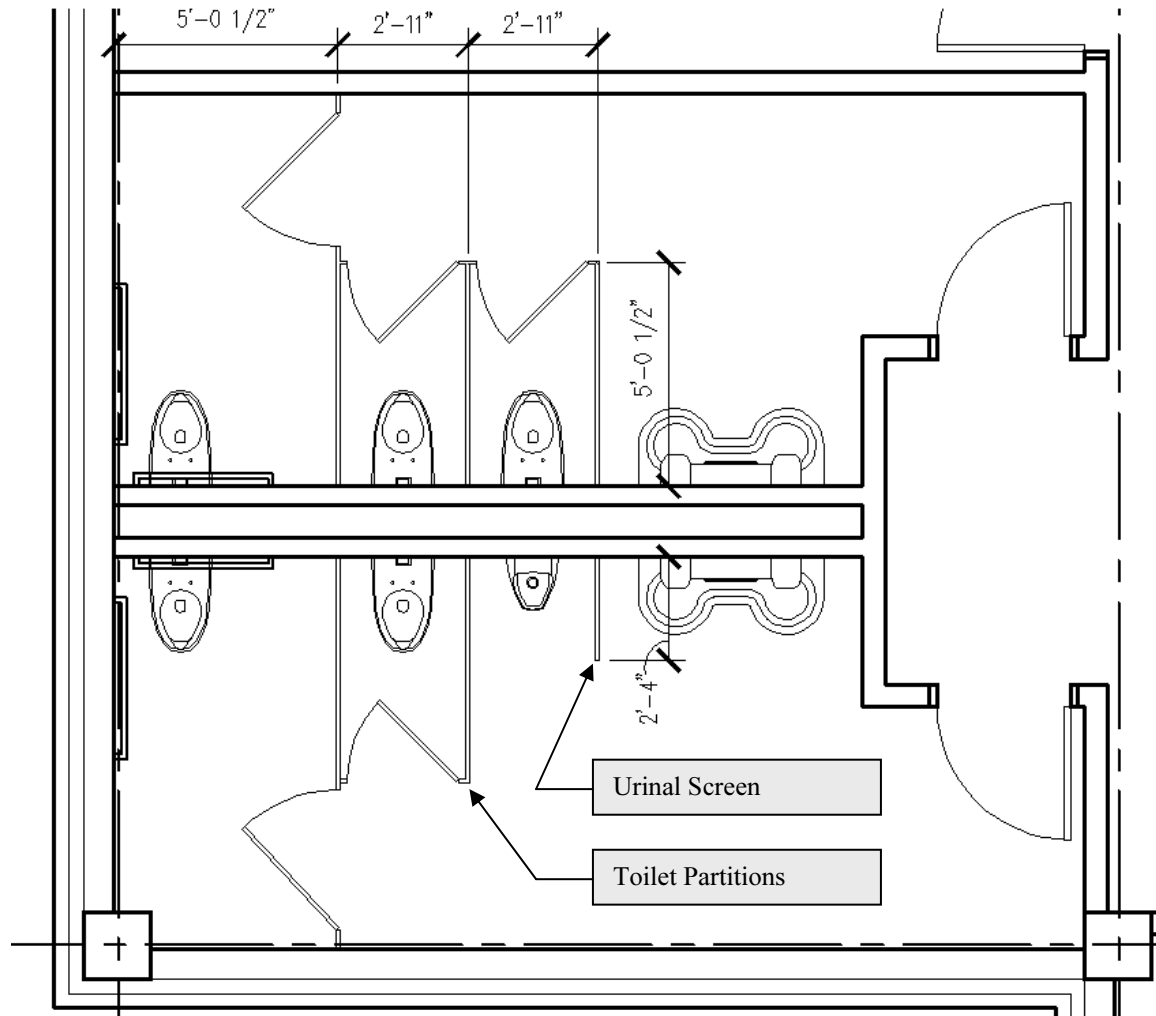

Figure 4-1.10 Drawing the toilet partitions and urinal screen
17. Draw the toilet partitions as shown in Figure 4-1.10, *plus*: